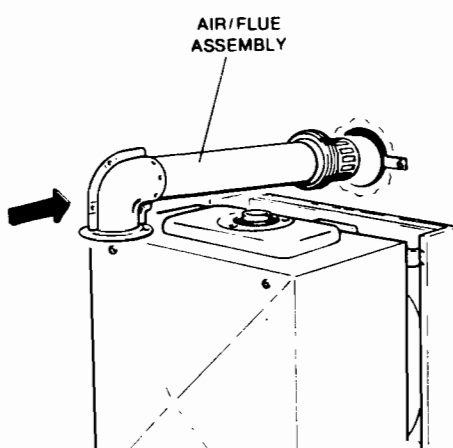
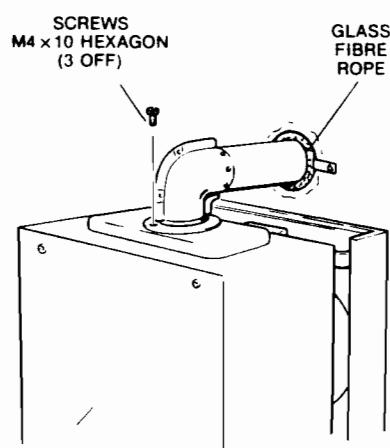

FIG. 23
FIG. 24
- g) Coat the sealing ring with a soap solution and slide the flue assembly into the wall liner (see Fig. 23) secure the elbow onto the combination boiler flue spigot, using the three screws provided. Fit the glassfibre rope around the air duct to make a seal between the air duct and the wall liner (see Fig. 24). Remove and discard the packing support legs and its securing screws (see Fig. 10).